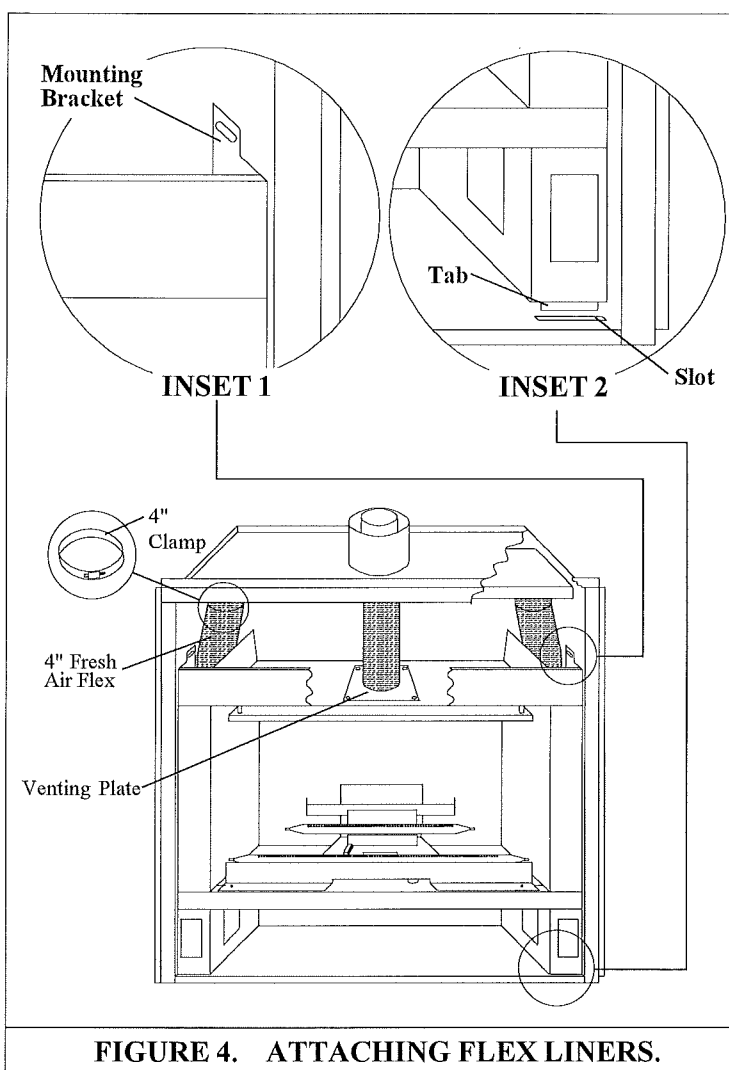

FIGURE 4. ATTACHING FLEX LINERS.
STEP 2. Remove the 4" clamps that attach the 4" fresh air flex to the fresh air collars. See **figure 4**.